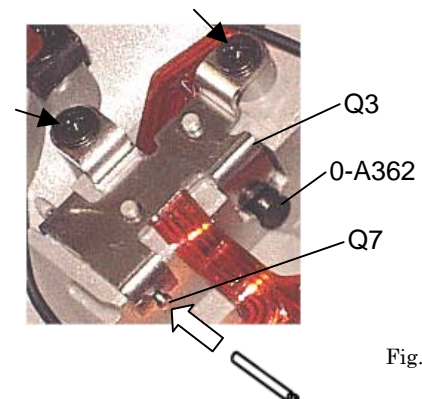

Fig.130
- 3) Insert Q7 into A301 from no groove portion side of Q7 as shown in Fig.130.
- 4) Q3 (Retain the flexible board as shown in Fig.130.), TY-CNL-D1.7x3.5 (x2)